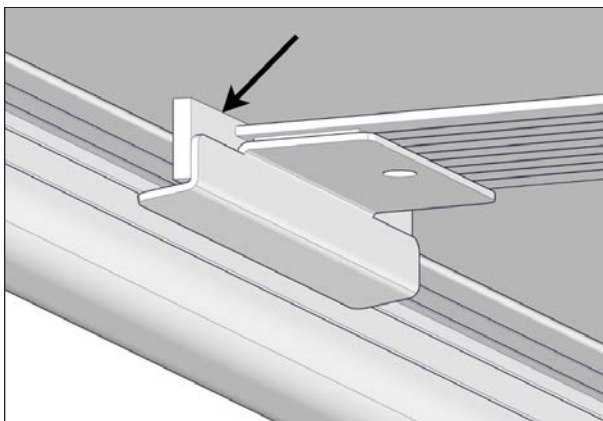

FIGURE 93: FINAL POSITION OF THE WIPER
At the final position of the wiper, the flap must touch the edge of the I-beam, see Figure 93.
- Stick the wiper bracket on the middle of the I-beam by holding it in place and maintaining pressure for at least 60 seconds. This ensures a proper bond to the I-beam. Make sure you install the wiper flap at the edge of the I-beam directly into the gap between the I-beam and the C-channel, see Figure 93.